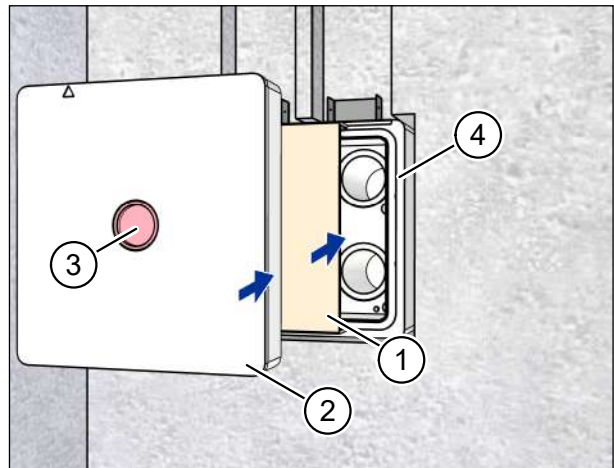

Fig. 18: Inserting the cardboard insert and plaster cover
- ▶ Insert the cardboard insert (item 1 in Fig. 18) into the wall box (item 4 in Fig. 18) as far as it will go.
- ▶ Insert the plaster cover (item 2 in Fig. 18) into the wall box (item 4 in Fig. 18) as far as it will go.
- ▶ Check that the red signal cover (item 3 in Fig. 18) is seated in the plaster cover.